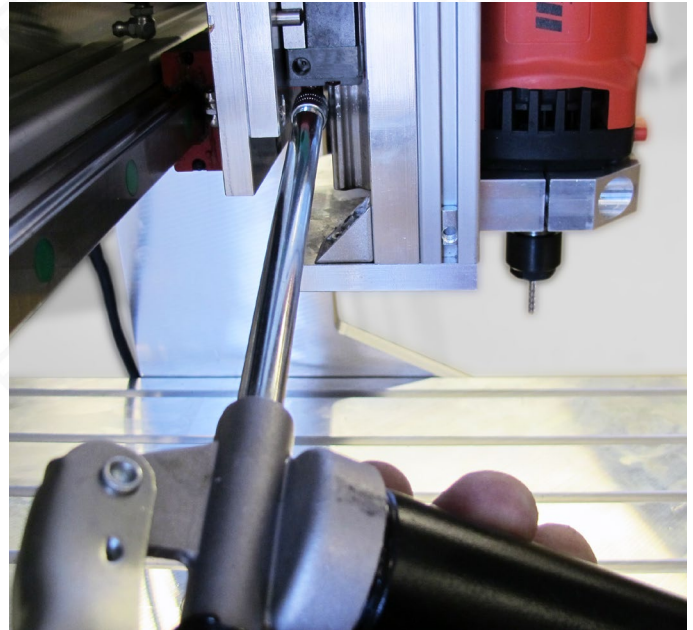

Fig. 48: Lubricating carriage Z-axis
- Lubricate the lower carriage as shown in Figure 48.